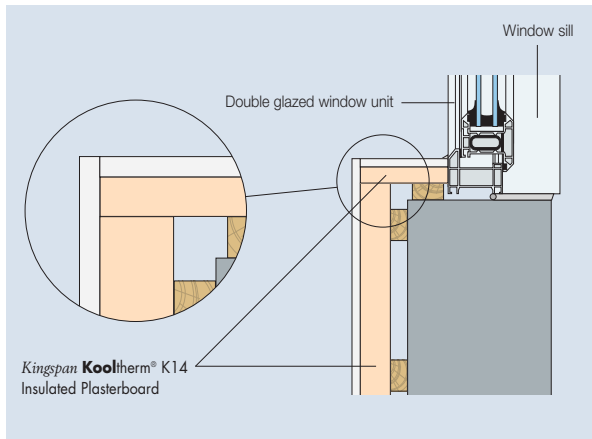

Figure 9 – Insulated reveal and external corner
- The use of a thinner sheet of **Kingspan Kooltherm® K14 Insulated Plasterboard** at reveals may be necessary (see Figure 9).